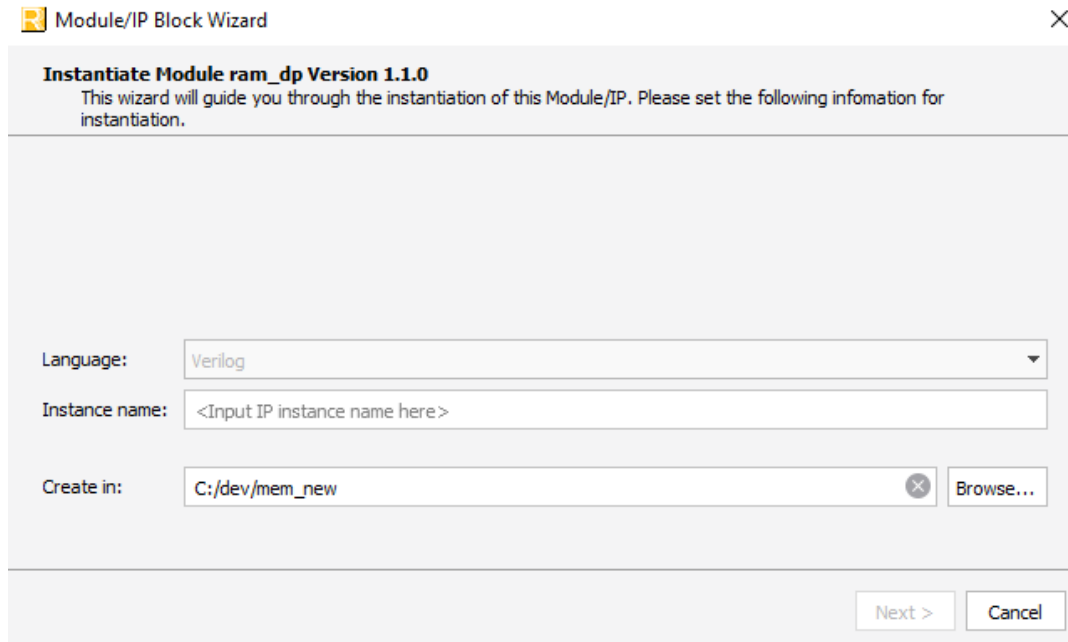

Figure 3.2. Example: Generating Pseudo Dual Port RAM (RAM_DP) Using Module/IP Block Wizard
7. This opens the Module/IP Block Wizard. In the **Name & Location** page, fill out the information of the module to generate as shown in Figure 3.2. Click **Next**.